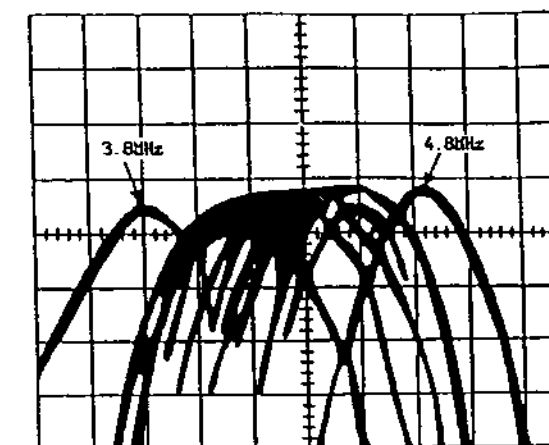

Fig. 16
- (1) Connect TP4001 to the input terminal on the spectrum analyzer, then adjust 3.8MHz and 4.8MHz as shown in Fig. 16 with VR4001 and VR4002.